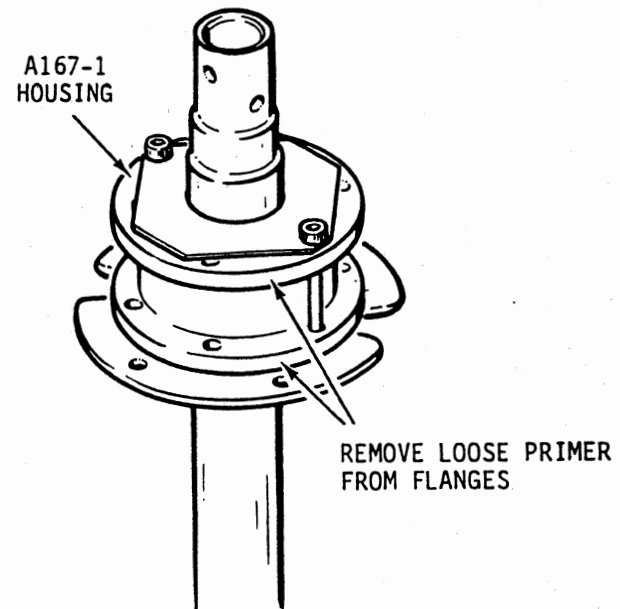

FIGURE 5
- 6) Clean and remove any loose primer from flanges of A167-1 housing per Figure 5 using Scotch-Brite or 400 grit or finer sandpaper. Touch up with light coat of epoxy primer per Section 1.410 of R22 MM or with zinc-chromate primer and allow primer to dry.